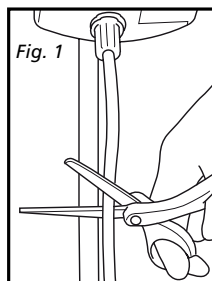

Fig. 1
- Drain the Vapotherm 2000i System in a receptacle by cutting the delivery tube. (Fig. 1)